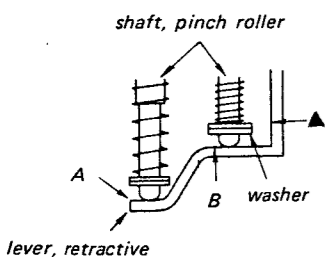

Fig. 8-7 Pinch roller stroke adjustment
- (1) Remove the head deck (See page 5).
- (2) Adjust the screw ① so that the pinch roller shaft comes in contact with the retractive lever at the position (A) shown in Fig. 8-7, in STOP mode.
- (4) Be sure that the washer for the pinch roller shaft does not come in contact with the part indicated with ▲ on the retractive lever shown in Fig. 8-7 when the function selector knob is changed slowly from FWD to FF.
- (5) After the adjustment, apply lock paint to the screw.